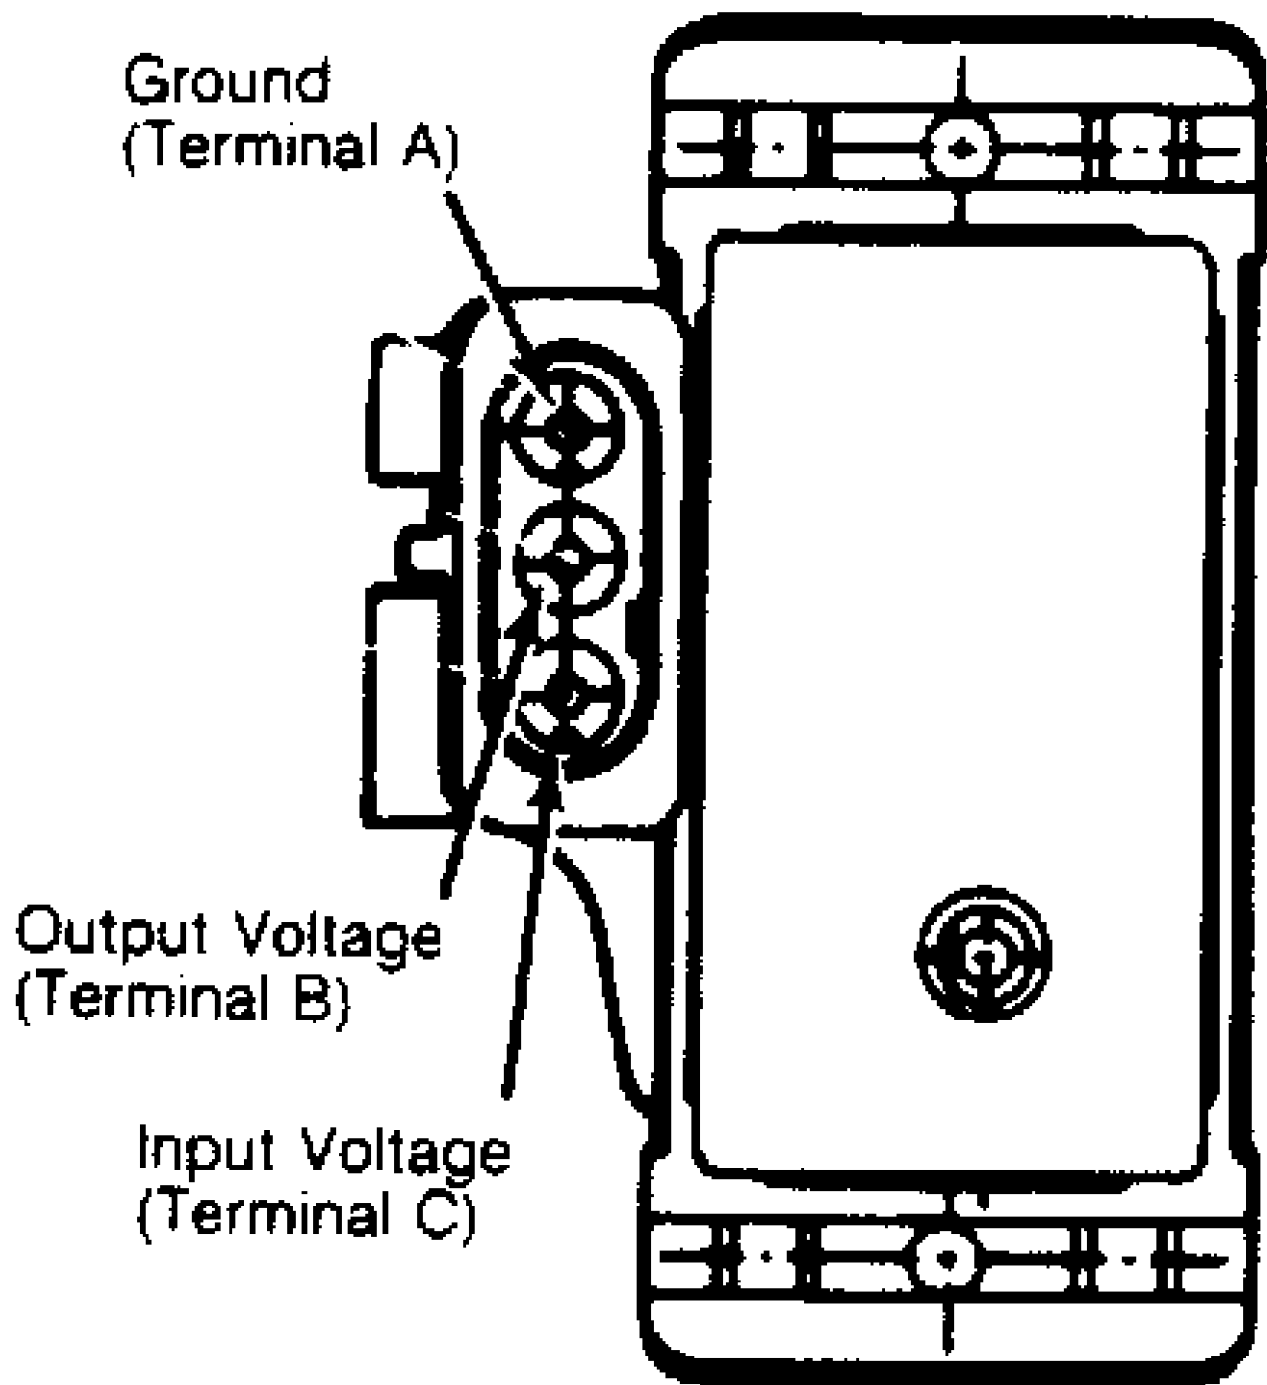

Fig. 4: MAP Sensor Terminal Identification
1) Disconnect electrical connector from sensor. With ignition on and engine stopped, measure voltage output of sensor terminal "B". See Fig. 4. Ensure wiring harness is okay by also measuring voltage at ECU terminal "C-t". Output voltage should be 4-6 volts at both points. Repair or replace wiring harness as required.
2) With ignition on and engine stopped, measure supply voltage of sensor terminal "C". See Fig. 4. Ensure wiring harness is okay by also measuring voltage at ECU terminal "C-14". Supply voltage should be 4.4-5.5 volts at both points. Repair or replace wiring harness as required.